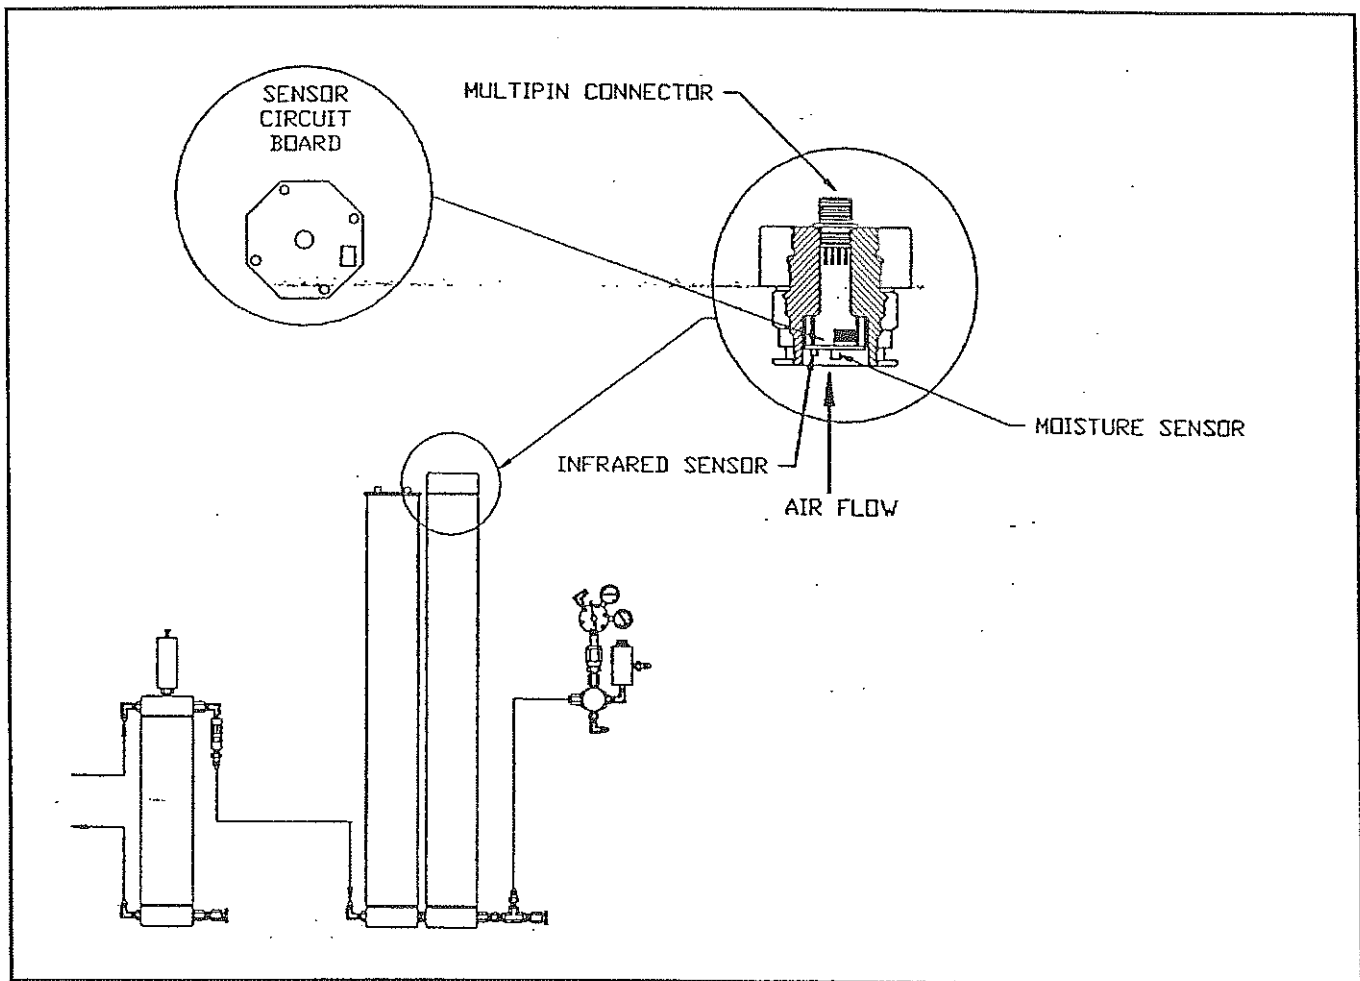

FIGURE 16-5 CMS MOISTURE SENSOR LOCATION
- (1) A small circuit board with a sensing element that is located in the air stream (see Figure 16-5).
- (2) A multipin connector that conveys the sensor power and electronic signals through the high pressure boundary of the purification system (see Figure 16-5).
- (3) A multiconductor cable.
- (4) An electronics box containing a circuit board that incorporates all of the system's electronic functions. The electronics box is placed on the compressor control panel or a wall mount panel.
Red Light (3rd Light From Top) - If a purification cartridge is not installed in the purification chamber, the infrared cartridge detection sensor (see Figure 16-5) will not send a return signal to the control unit. This will result in the illumination of the "install filter" red warning light and the compressor will not start.